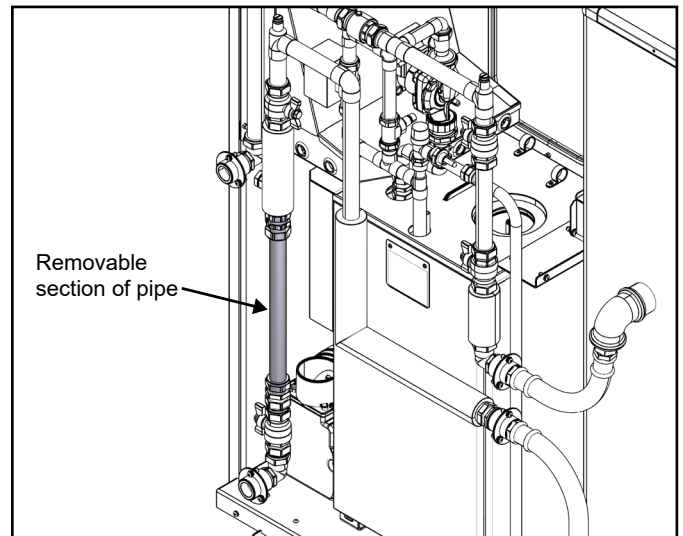

Figure 7-10: Location of removable pipe section
- Locate the removable section of pipe in the return to the heat pump. Refer to Figure 7-10.
- Unscrew the compression nuts at both the upper and lower ends of the removable pipe section. Refer to Figure 7-10. Carefully lift the upper section of pipe just enough to remove the pipe with the fittings attached at each end.
- Remove the compression nut and olive from the 28mm compression x 1" BSPF fitting (supplied with the heat meter) and connect the fitting to the compression nut (just above the lower isolating valve). Refer to Figures 7-10 and 7-11.
- Repeat steps 3 and 4 above to fit the other 1" BSP threaded tail and union nut (provided with the flow meter) into the vacant upper 1" BSP socket. Refer to Figures 7-10 and 7-11.